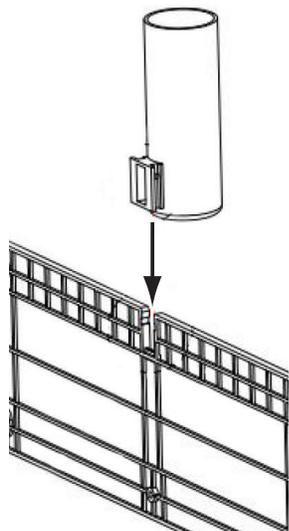

Figure 1
- Slide attachable Tubes into each track at the top of the Organizer Body (see figure 1). These Tubes aren't meant to be removed, so moderate force may be required. You will feel a "click" once in place.